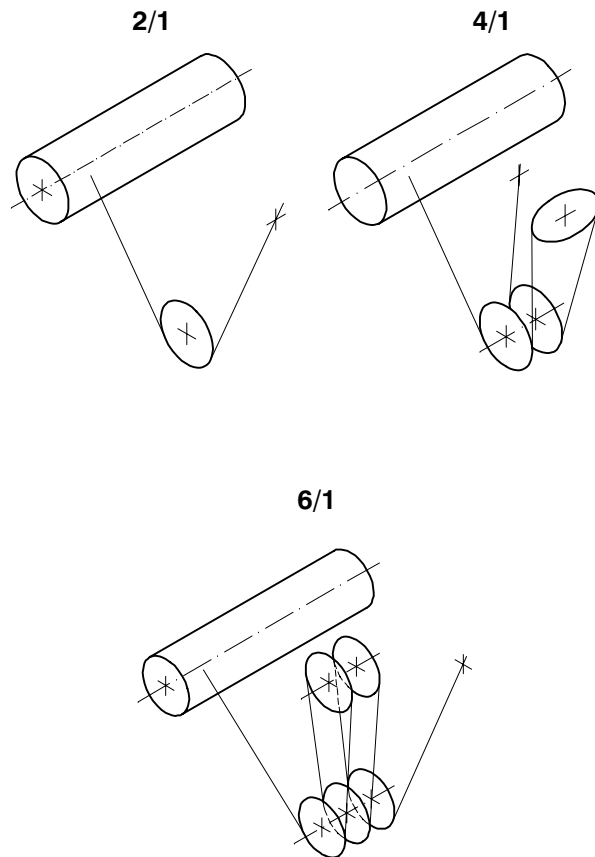

Figure 31
9. Reeve the free rope end without twisting and fasten it in the rope socket (6,8,9,10,11,15) of the fixed point tie-bar (14). For reeving, see figure 31.